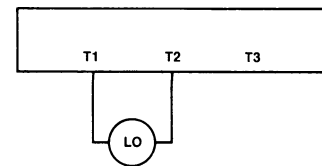

Fig. 10-5 Lockout solenoid connections.
In some cases an accidental turn of the shaft may close the switch contacts and start the motor. To prevent this, the switch can be equipped with a lockout solenoid. The solenoid mechanically keeps the contacts from operating unless the lockout coil is energized. This is a factory-mounted feature or can be field mounted from a kit. If a lockout solenoid is used, a slight change in the wiring is necessitated. Figure 10-5 shows which terminals are used for the lock out (LO) solenoid.